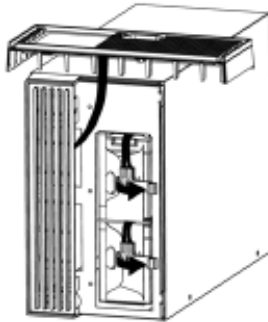

FIG. 3
4. Press down to unlock the battery connector holders (FIG. 3).